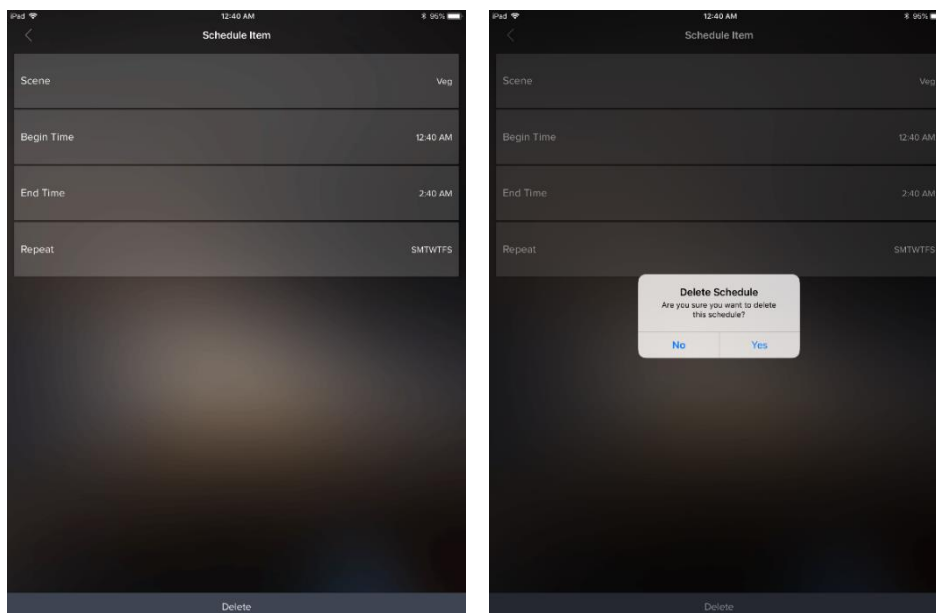

Figure 5-16 Delete Schedule
5.4.2 To delete a Schedule, go to the Schedule screen. Schedule screen would show all the user created schedule, click on the schedule you want to delete and then click on the “Delete” button present at the bottom of the screen as shown in Figure 5-16.